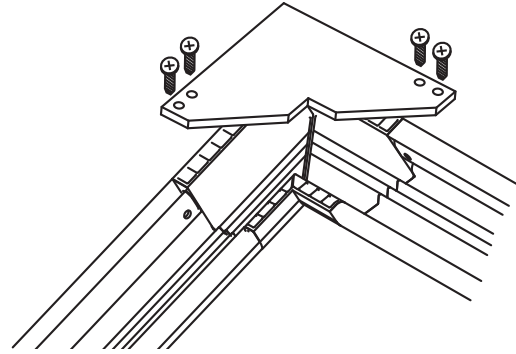

Figure 9
- ③ Insert opposite side of surface to notch #1 of frame extrusion.
- ④ Repeat steps 2-3 with remaining edges of surface.
- ⑤ Ensure surface retention extrusions are centered lengthwise in tension slots on all 4 edges of surface.
- ⑥ If additional tension is desired or required over time, adjust surface one edge at a time to tension notch #2.
- ① If screen is being flown (suspended) or is over 120" (viewing area) height or width, install Corner reinforcement Gussets to all four corners (see Fig. 9).